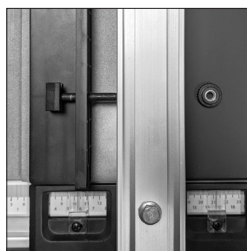

Fig. 19
- Insert the bolts **N** through the holes on the LH side of the Rip Fence and tighten the finger nut **L** on the RH side. (**Fig.19**)